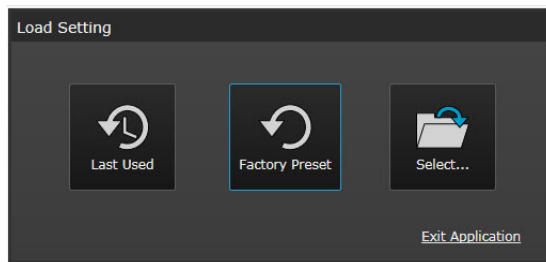

Figure 17 Load Settings screen
- 3 When the **Load Settings** screen appears as shown in Figure 17 on page -47, load the last used, factor preset, or new settings.